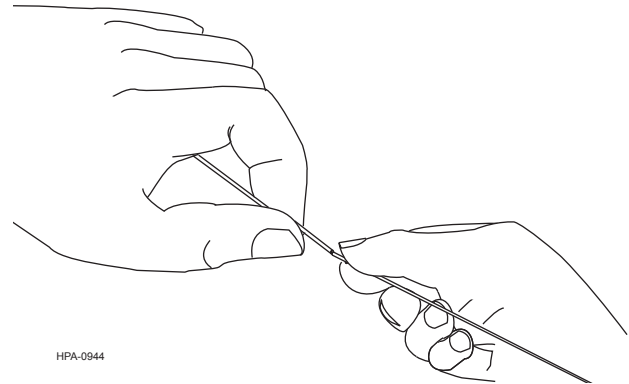

Figure 11
- Step 3:** Snap the buffer tube at the score mark by hand and carefully slide the severed section of buffer tube off the fibres (Figure 11).